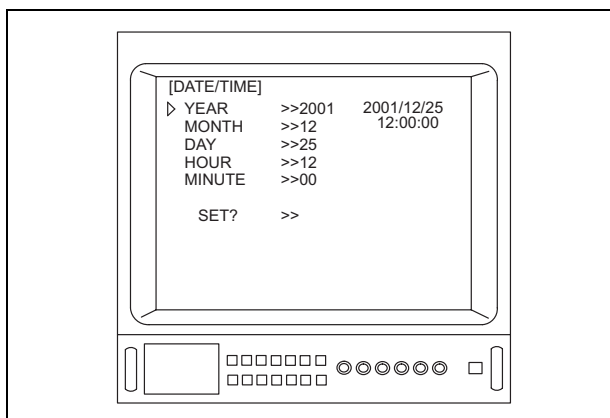
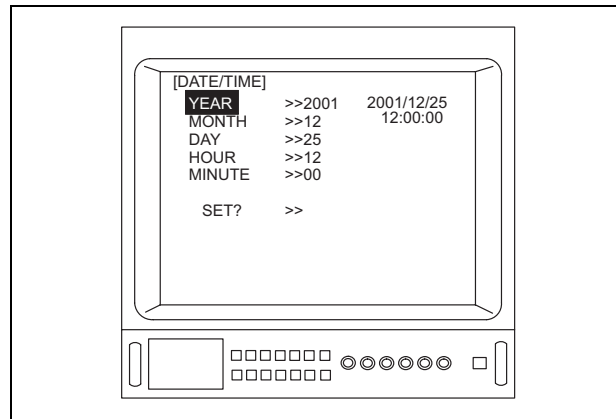

Figure 5.6
Figure 5.7
- When the menu switch "◀" or the "Enter" key on the keyboard is pressed, the characters of the function to the right of the arrow "▶" change from black to white. (For example, press the menu switch "◀" or the "Enter" key on the keyboard when the menu shown in Figure 5.6 is displayed, the menu appears as shown in Figure 5.7.)
Depending upon the OTV-S7V's settings, the menus shown in Figures 5.6 and/or 5.7 may appear different from those displayed on the video monitor.
- When function's characters change from black to white, depress the menu switches "◀" or "▶", or the "↑/↓/←/→" key on the keyboard to set up the function. (For example, when the menu shown in Figure 5.7 is displayed, press the menu switch "◀", or the "↓/←" key on the keyboard to change the year to "2000", and press the menu switch "▶", or the "↑/→" key on the keyboard to change the year to "2002".)
- When function's characters change from black to white, depress the menu switch "↵" or the "Enter" key on the keyboard to decide the setting and to go to previous menu. (For example, depress the menu switch "↵" or the "Enter" key on the keyboard when the menu shown in Figure 5.7 is displayed to decide the setting and to go to the menu shown in Figure 5.6.)